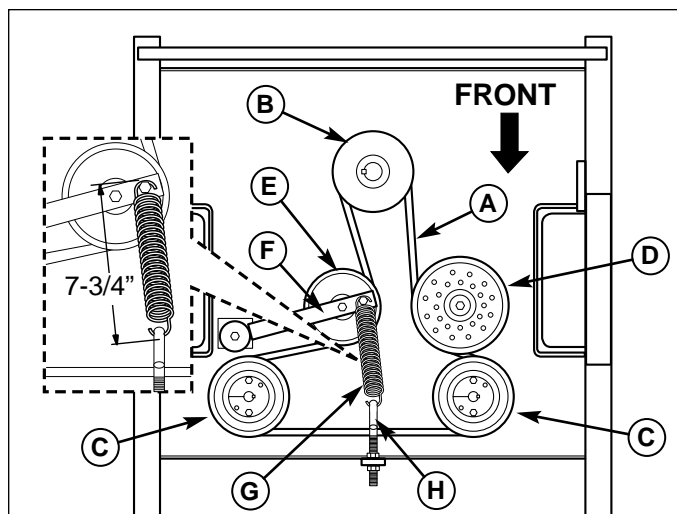

Figure 31. Hydraulic Pump Drive Belt Replacement
3. Loosen the nut towards the front of the machine on the spring anchor hook (H, Figure 31) to release the majority of the belt tension. Use caution and remove the nut to completely release the tension.
4. Remove the old belt and replace it with the new one. Make sure the V-side of the belt runs in the grooves of the crankshaft pulley and pump pulleys (B & C, Figure 31).
5. Reinstall the anchor hook (H, Figure 31) into the anchor tab and loosely fasten the nut. Adjust the spring until a measurement of 7-3/4" is achieved from the outside if the spring hooks. Tighten nut.